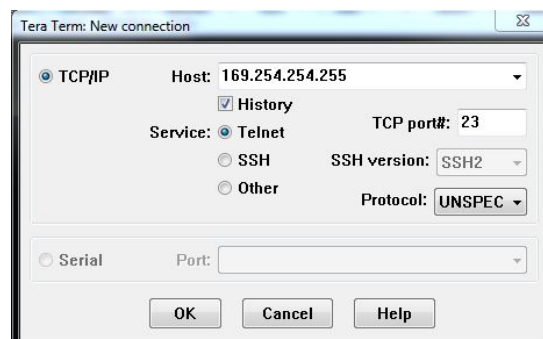

Figure 14. Tera Term Telnet Connection
- Open the Tera Term program for creating a new connection, as Figure 14 shows. Select *TCP/IP* and *Telnet*. Type in the IP address allocated to the CAN-Ethernet converter in the *Host* field. For example, if the IP address allocated is 169.254.254.255, enter that as the address.